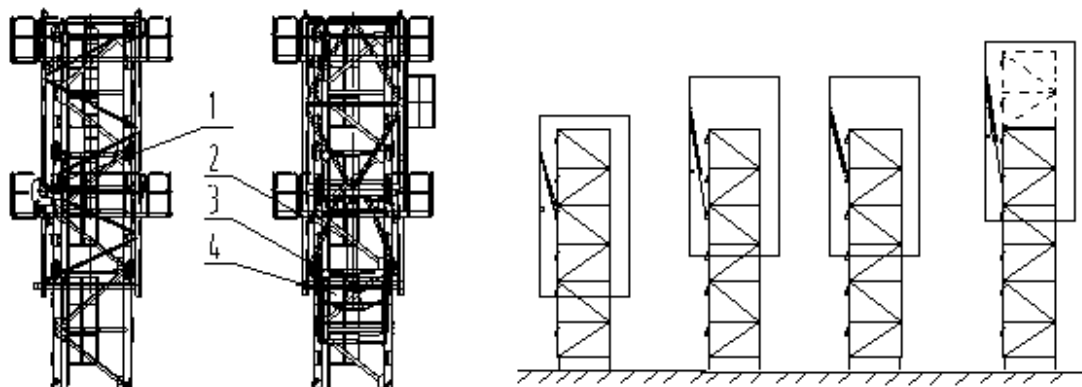

Fig. 4-57 Climbing process
- 3) Start up the hydraulic system to extrude the oil cylinder, lift the hanging plate into the slots of the group of lugs of one tower section at the shortest distance (Check the climbing beam whether in the round groove). Insert safety pins, ensuring without error, jack the climbing equipment and the parts above it for 10~50 mm and then stop. Check the hanging beam and climbing equipment and similar power transmission parts for abnormal noise and deformation. Check the oil cylinder for automatic retraction and similar abnormal incidents. In case of OK confirmed, continue to jack (see Fig. 4-57).